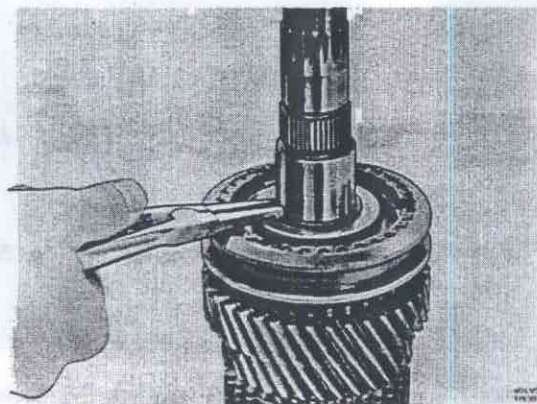
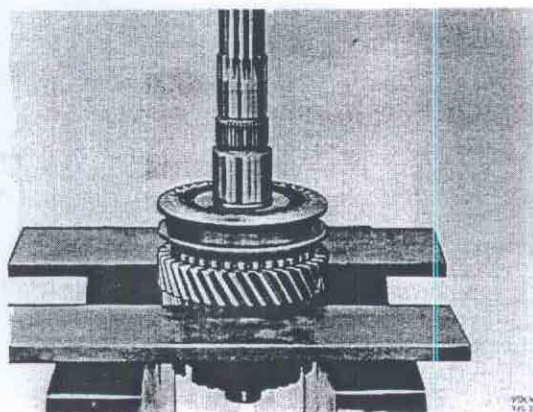

Fig. 43-69. Removing circlip
Fig. 43-70. Removing hub and gear
2. Remove the lock ring for 1st-2nd synchronizing hub, Fig. 43-69. Place the shaft in a press with a counterhold under 2nd gear, Fig. 43-70. Press off the synchronizing hub and gear. Remove the engaging sleeve and the interlock units. Remove the needle bearing.